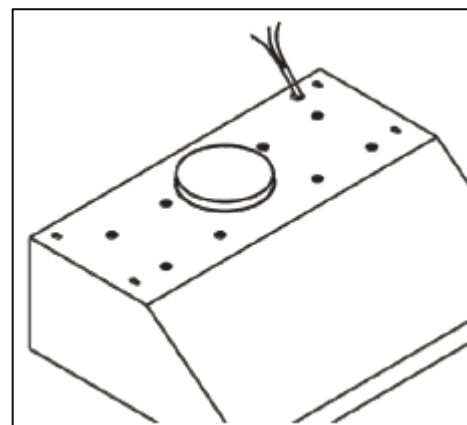

Figure 2
12. Create access opening for electrical wires (refer to figure 2) and hood exhaust under the cabinet.